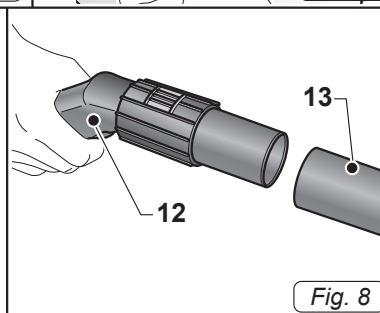

Fig. 8
- Attach the extension (13 Fig. 8) to the handle of the flexible hose (12 Fig. 8).